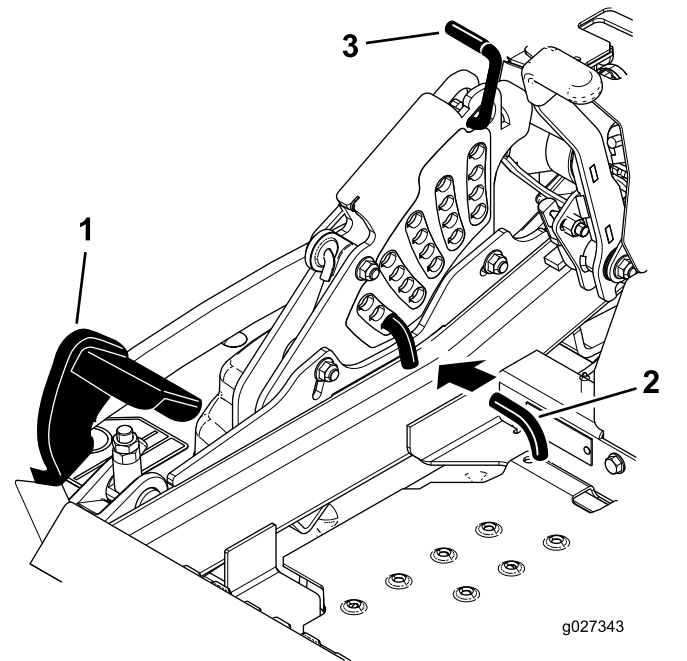

Figure 85
5. Push the deck-lift pedal all the way forward and the deck will latch at the 14 cm (5 1/2 inch) transport position (Figure 85).